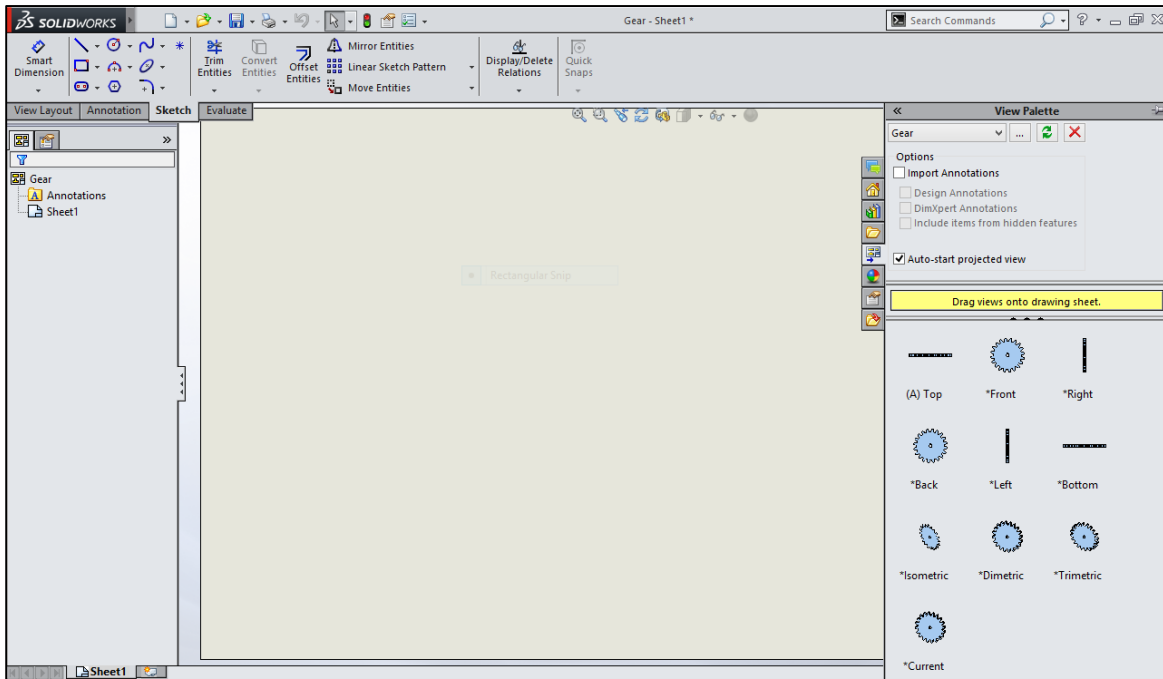
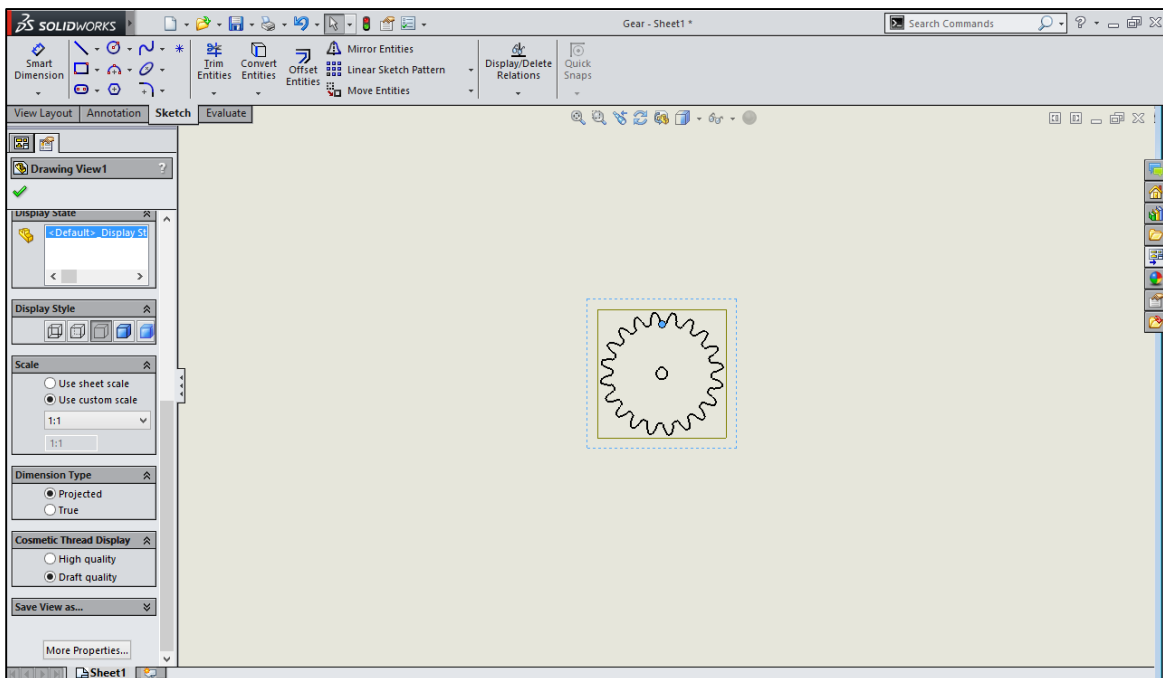

Figure 3
Figure 4
- The 'View Palette' side window will open (Figure 3). Select the desired view, we will use the front view. Drag and drop the front view onto the empty view panel to the desired location. The drawing view will now be displayed in the view panel (Figure 4).